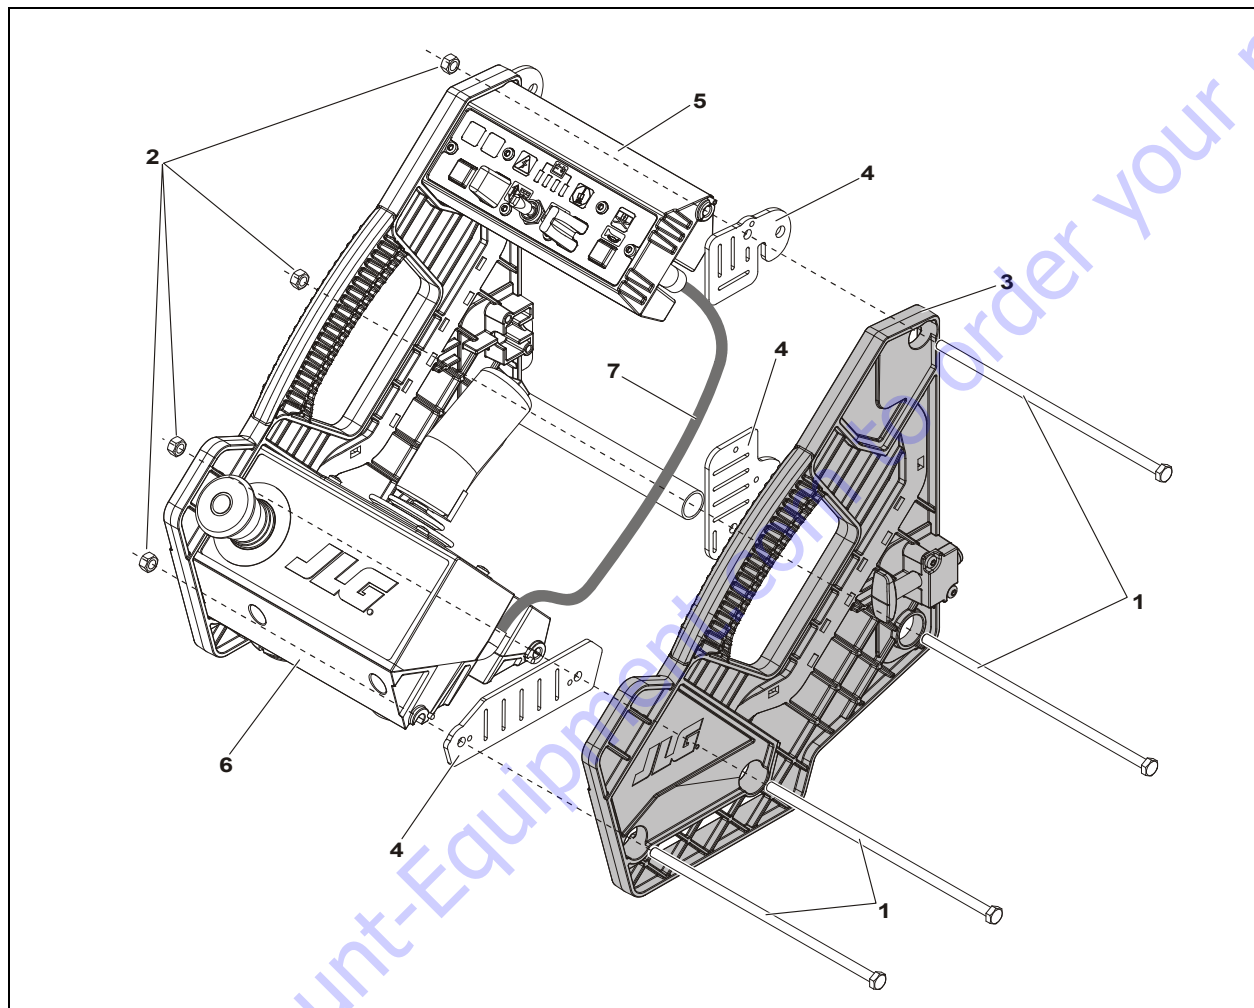

Figure 3-13. Platform Control Station Assembly
3. Loosen and remove the long through bolts that hold the two side control housings together. (See Figure 3-13.)